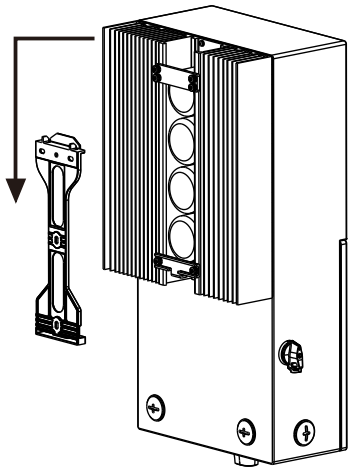

Figure 4.6 Wall Mount Bracket
- 4.Lift up the inverter (be careful to avoid body strain), and align the back bracket on the inverter with the convex section of the mounting bracket. Hang the inverter on the mounting bracket and ensure the inverter is secure (see Figure 4.6)